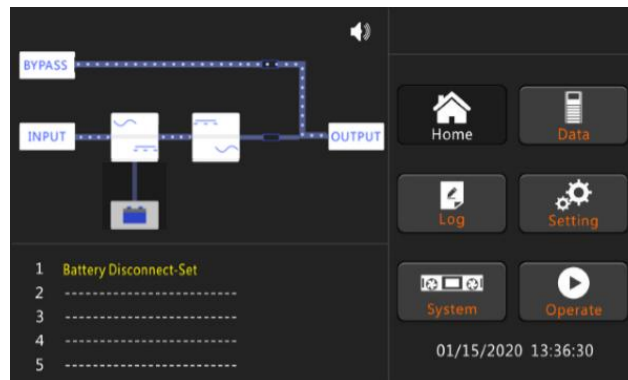

Fig.4-3 LCD of inverter starting
6. After the bypass static switch is on, the inverter starts and the inverter indicator bar flashes, as shown in Figure 4-3.